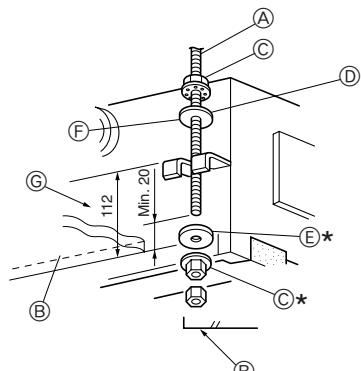

Fig. 2-7
- Thread washers ① ② (supplied) and their nuts (procured locally) onto the suspension bolt in advance. (Fig. 2-7)
- * Do this in the following order (from the top): nut, insulated washer ②, washer without insulation ①, two nuts.
- * Position insulated washer ② with the insulated surface pointing down, as in the figure.
- Lift the unit into place, aligned properly with the suspension bolt. Pass the bracket between washers ① and ②, which are already in place, and secure it. Do the same in all four places.
- Ⓓ Washer ② (with insulation)
- Ⓔ Washer ①